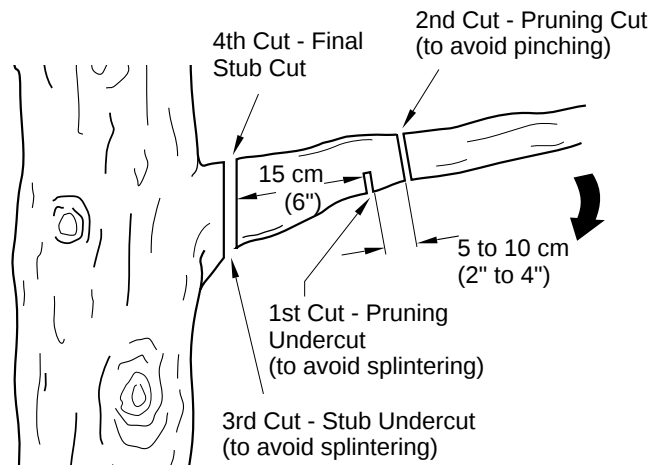

Figure 17 - Cutting A Limb
1. Make first cut 15 centimeters (six inches) from tree trunk on underside of limb. Use top of guide bar to make this cut. Cut 1/3 through diameter of limb (see Figure 17).